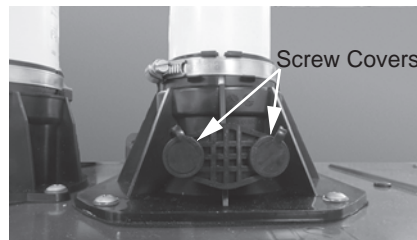

Figure 207 - Emission port location
**5** Remove screws and set aside in a safe place for reinstallation. See Figure 207.